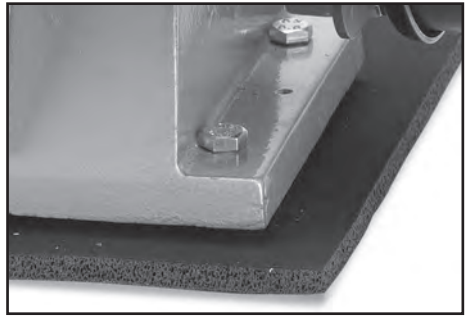

FIG.1
8.2 BENCH MOUNTING YOUR GRINDER – FIG. 1